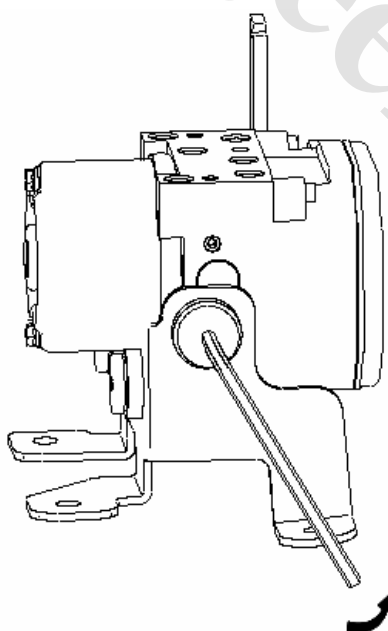

Fig. 3-12
(2) Remove the 6 M10×1 nuts of brake pipe of HECU with wrench 10 in a counterclockwise (clockwise when installing) direction. Tightening torque of brake pipe is 14N·m.
(3) Remove the 3 bolts or nuts on bracket with wrench 13 in a counterclockwise (clockwise when installing) direction. Tightening torque of bolts or nuts for bracket fastness is 23N·m.
(4) Remove the 3 M6 bolts in HECU with 5mm hexagonal wrench in a counterclockwise direction after removal of products, as shown in Fig. 3-12.